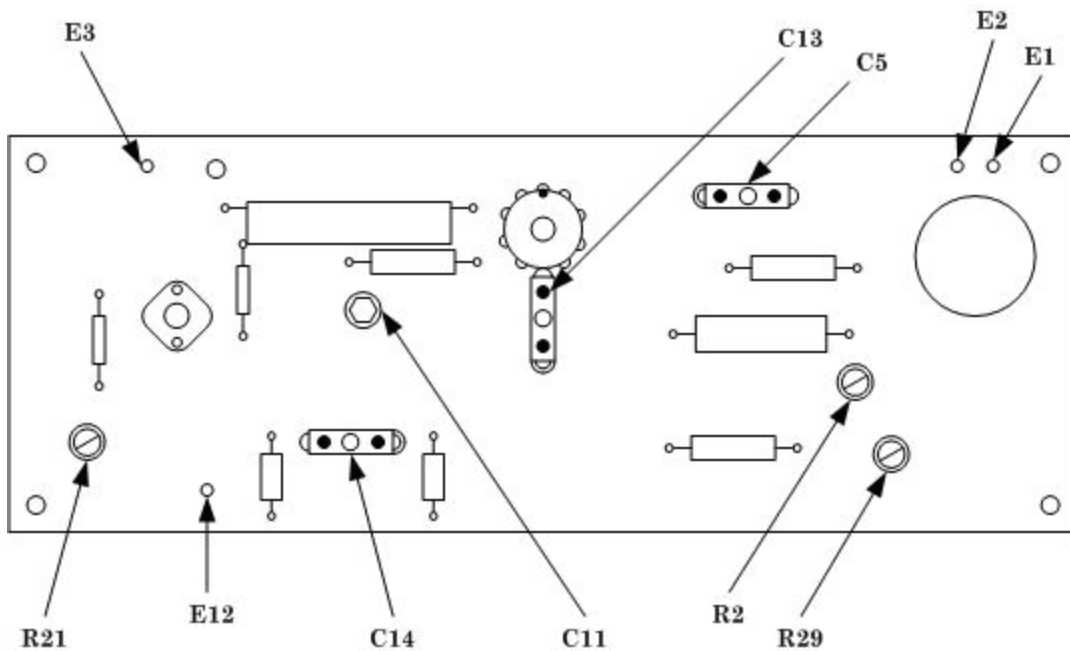

Figure 2. AN/URM-127 - adjustments
- (2) Adjust R2 (fig. 2) until **OUTPUT RMS** meter indicates 1.15 (R).
(3) Adjust **OUTPUT CONTROL** until audio analyzer indicates 10 V.
(4) Adjust R29 (fig. 2) until **OUTPUT RMS** meter indicates 1.0 (R).
- (1) Set **FREQ RANGE MULTIPLIER** switch to **X100** and frequency dial fully ccw to mark on dial.
- (2) Adjust C11 (fig. 2) until audio analyzer indicates between 21.400 and 21.500 kHz (R).
- (3) Slowly rotate frequency dial cw until audio analyzer indicates 20.000 kHz.
- (4) Reposition frequency dial to indicate **200**.
- (5) Set frequency dial in turn to **100**, **60**, **40**, and **20**. If audio analyzer does not indicate within 2 percent of settings, repeat (1) through (4) above for best in-tolerance condition.
- (6) Repeat a (4) above. If audio analyzer does not indicate within limits specified, perform (7) through (15) below.
- (7) Set C14 (fig. 2) to the half-open position.
- (8) Set **FREQ RANGE MULTIPLIER** switch to **X1K** and frequency dial to **20**.
- (9) Adjust C5 and C13 (fig. 2) until audio analyzer indicates 20.000 kHz (R).
- (10) Turn **OUTPUT CONTROL** fully cw.
- (11) If required, readjust C5 and C13 (fig. 2) until **OUTPUT RMS** meter indicates at least 1.15 and audio analyzer indicates 20.000 kHz.
Increase capacitance of C5 and decrease capacitance of C13 (fig. 2).
- (12) Set frequency dial to **200**.
- (13) Adjust C14 (fig. 2) until audio analyzer indicates 200.00 kHz (R).
- (14) Set frequency dial to **20** and repeat (11) through (13) above for best in-tolerance condition.
- (15) Repeat a (1) through (4) above and, if required, (1) through (14) above for best intolerance condition.
- (16) Set **FREQ RANGE MULTIPLIER** switch to **X100** and frequency dial to **20**.
- (17) Readjust frequency dial until audio analyzer indicates 2000.0 Hz.
- (18) Reposition frequency dial to indicate **20**.